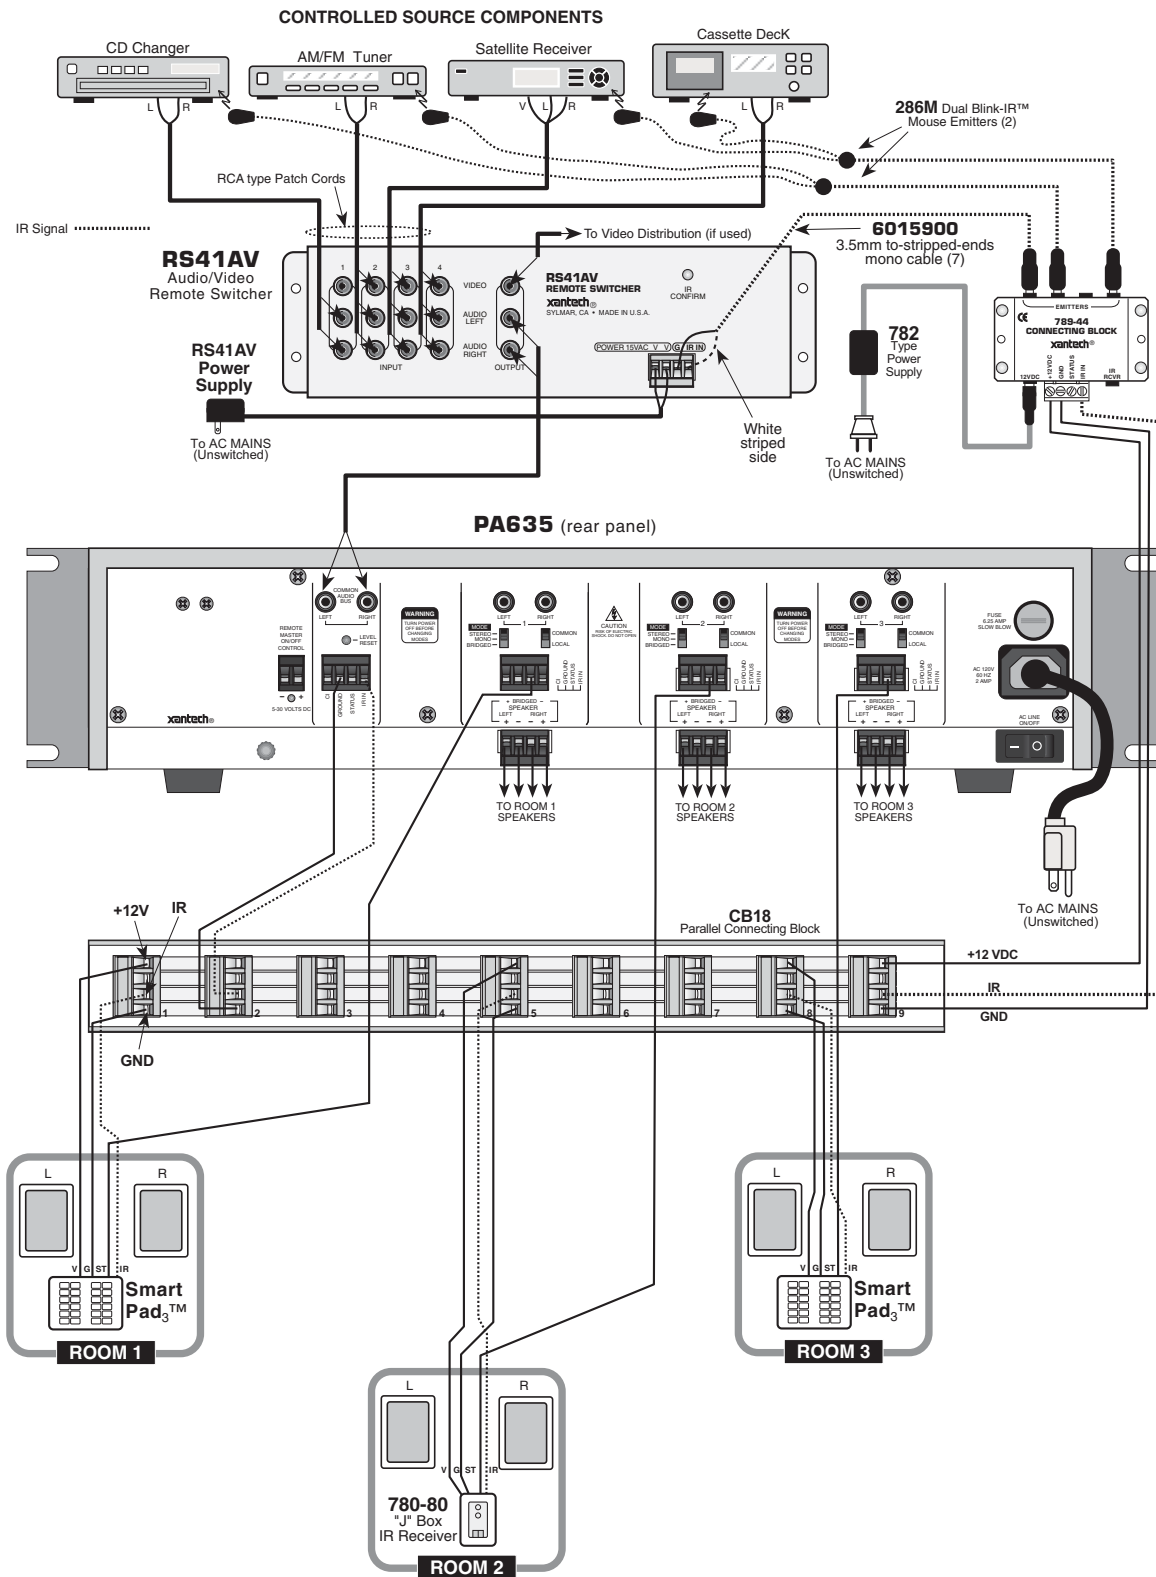
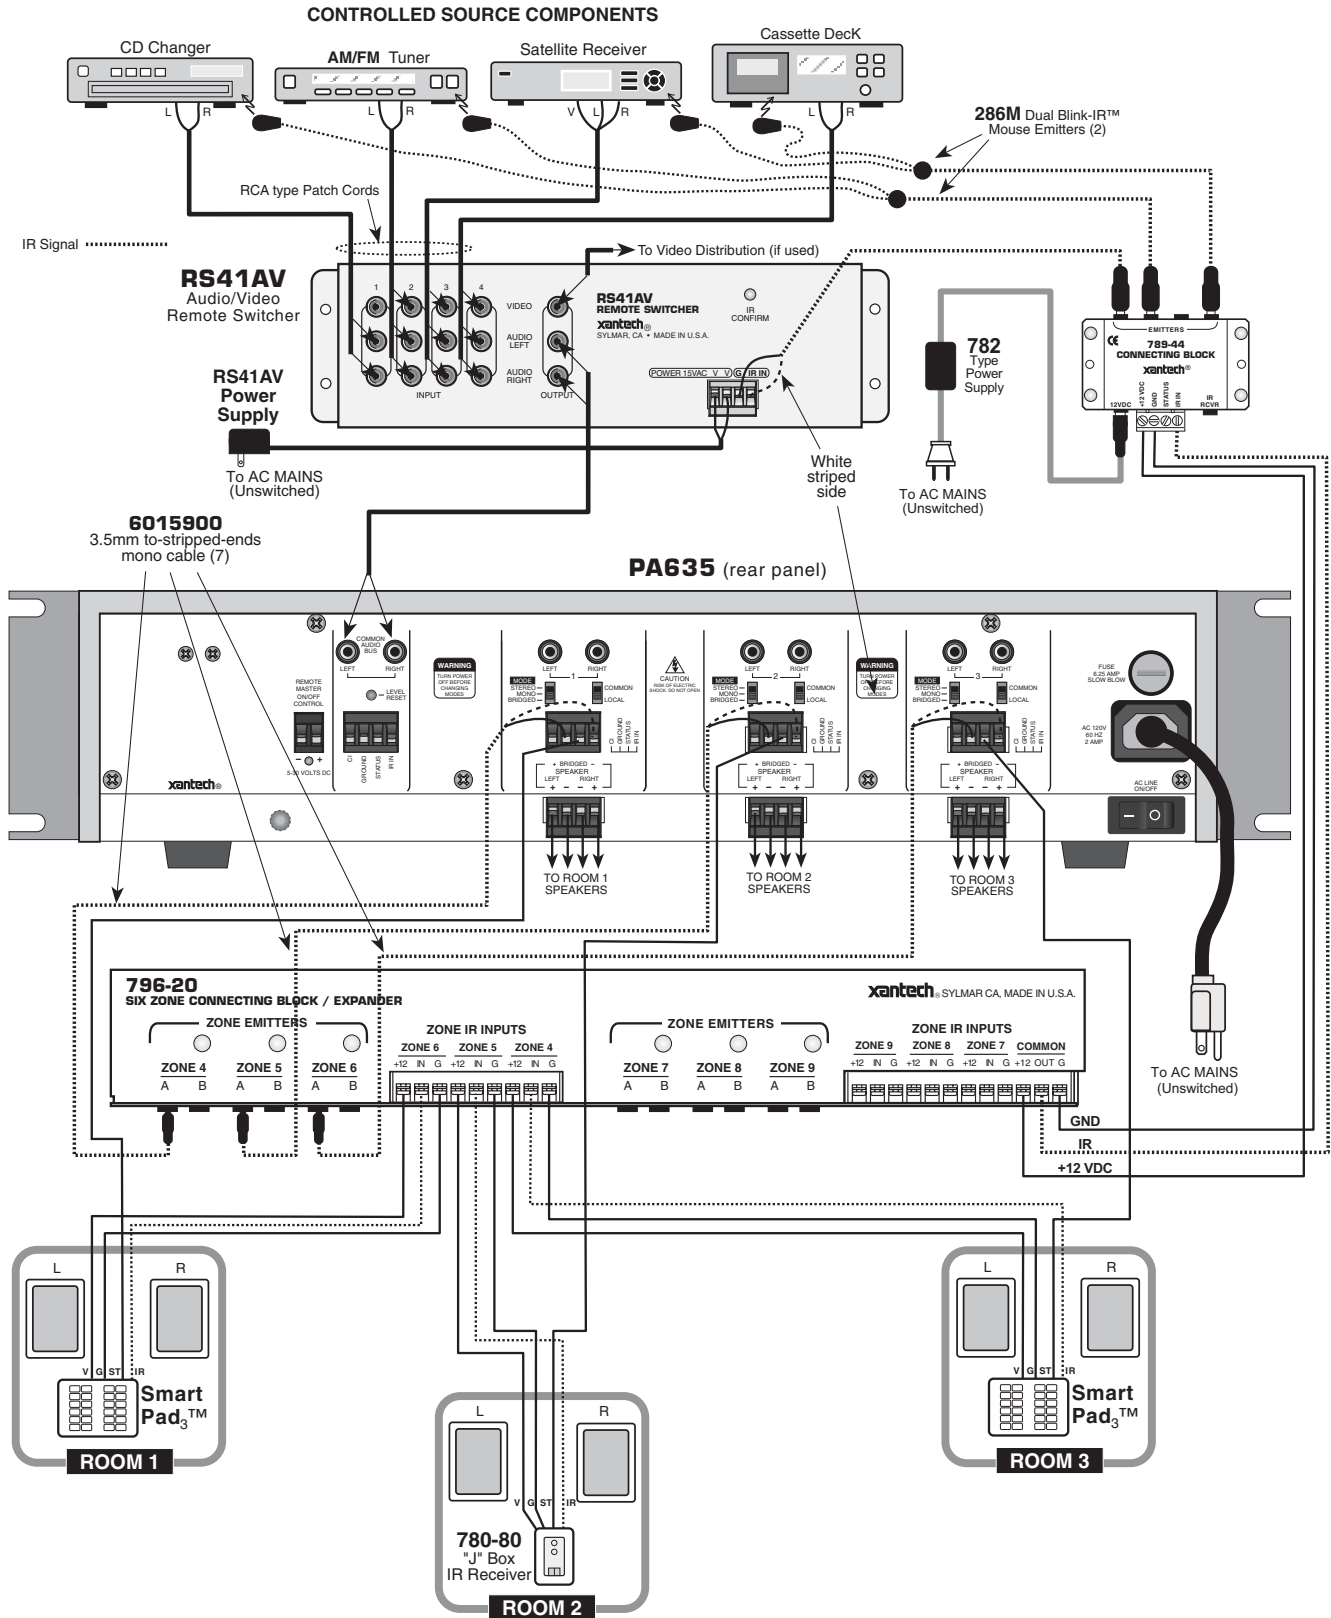

Figure 8 – Basic PA635 and RS41AV System – Requires Room-Dedicated Remotes
Figure 9 – Basic PA635, RS41AV and 796-20 System – Uses Non-Dedicated Room Remotes
A typical system using a low cost approach is shown in Fig. 8. It does require that a dedicated remote be used in each room that has an IR receiver - that is, remote commands for Volume, etc., are specific for each room. The system is configured as follows:
4. The Common IR is taken from the #2 connector on the CB18 (connection to any of the other connectors would also work) and run to the Common IR IN on the PA635 with a 2-conductor lead. Refer to Fig. 8.
If you wish to carry remotes that have the same codes from room-to-room, that is, Non-Dedicated Remotes, use the IR System shown in Fig. 9.
A typical system of this type is shown in Fig. 9, where each remote room has a Dedicated IR path going to the PA635 amplifier pair that controls it. The IR bus is not connected in common as it is in Fig. 8. It eliminates the need for dedicated remotes, allowing you to carry the same remote(s) from room-to-room - that is, remote commands for Volume, Mute, etc., will work in any room from the same remote.
This system is similar in many respects to the previous system (Fig. 8), but differs as follows:
CAUTION: The output voltage of some adapters, such as the 781RG, drops off too slowly to provide a quick turnoff for the PA635. Therefore, when using any adapter (12 VDC max), always connect the included 220 Ohm 1 Watt resistor in shunt with the REMOTE MASTER ON/OFF CONTROL terminals as shown in Fig. 9. Failure to do so may result in blowing of the power line fuse (item #10, Fig. 3).
CAUTION: When making this connection, do not use the included 220 Ohm resistor! Refer also to CAUTION notes, Fig. 9.
The PA635 blew its fuse (item #10, Fig. 3) as power was turned OFF using an adapter driving the REMOTE MASTER ON/OFF CONTROL terminals.	The supplied 220 Ohm resistor may not have been connected in shunt with the REMOTE MASTER ON/OFF CONTROL terminals. Be sure this resistor is connected and that the leads are making secure contact within the screw terminals of the connector. Refer to CAUTION notes, Fig. 9